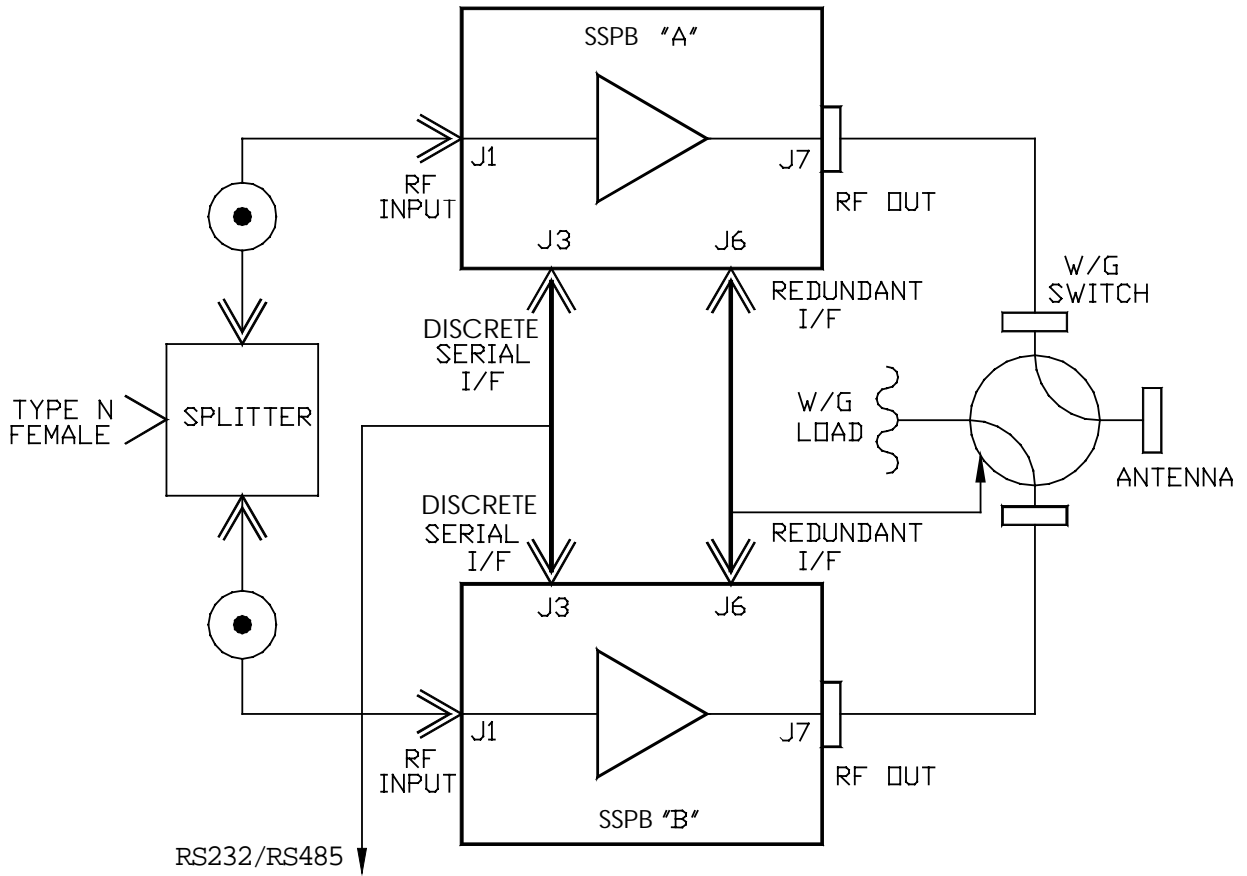

Figure 5: 1:1 Redundant System Block Diagram
The 1:1 redundant system contains two SSPBs, which mount on to a redundancy frame and are interconnected using the dedicated harnesses, waveguides, flexible cables and the waveguide switch. The redundant system block diagram is shown in **Figure 5** at page 23.
The Waveguide Switch Assembly consists of four waveguide ports. For the 1:1 redundant system, the Waveguide Switch Assembly normally connects the RF output port of the on-line SSPB 'A' to an antenna waveguide system while the standby SSPB 'B' connects to an RF absorbing dummy load see **Figure 5** at page 23.
This interface enables the communication between the two SSPB micro-controllers and provides control over the waveguide switch. The Redundant Interface connections are made with connector (J6) of each SSPB. This connector is a 26-pin MS3112E16-26P (male) connector with a pin assignment as shown in **TABLE 2** below. A redundancy cable with connectors is provided in the redundancy kit see **item 5, TABLE 14** at page **50**. For a standalone SSPB, this interface is not used. The interconnections for the 1:1 redundant system are shown in **Figure 5** at page **23**.